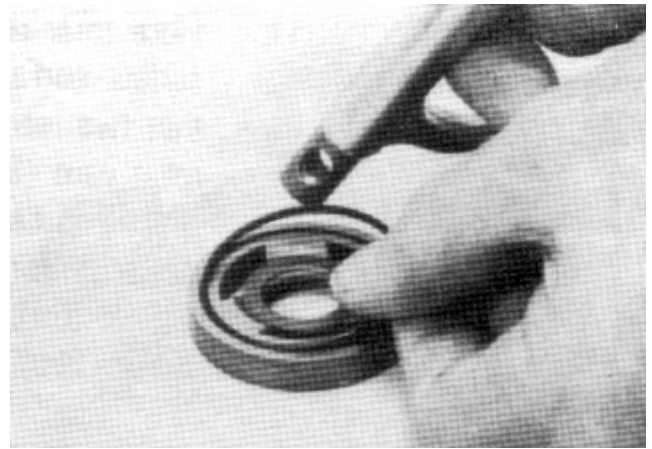

Figure 34
4. If the end cover (24) is equipped with shuttle valve components (left-hand motor only), remove both previously loosened plugs and O-rings (25).
5. Remove commutator ring (23).
6. Remove commutator (16) and commutator seal (15). Remove commutator seal from the commutator using an air hose to blow air into the ring groove until the commutator seal is lifted out (Fig. 34)